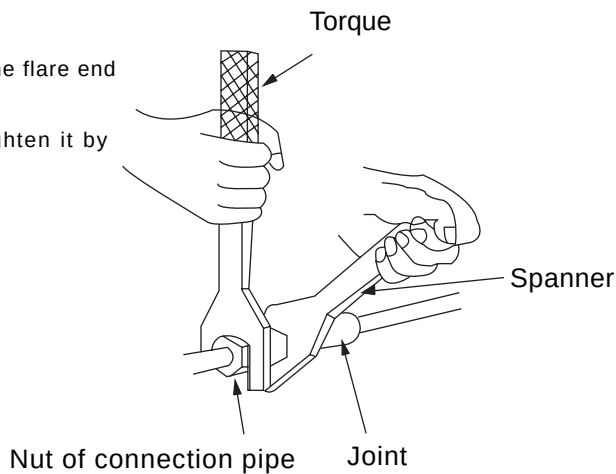

Fig.9-7
- Tighten nuts on connecting pipe with force then tighten it by spanner.(As shown in Fig.9-7)